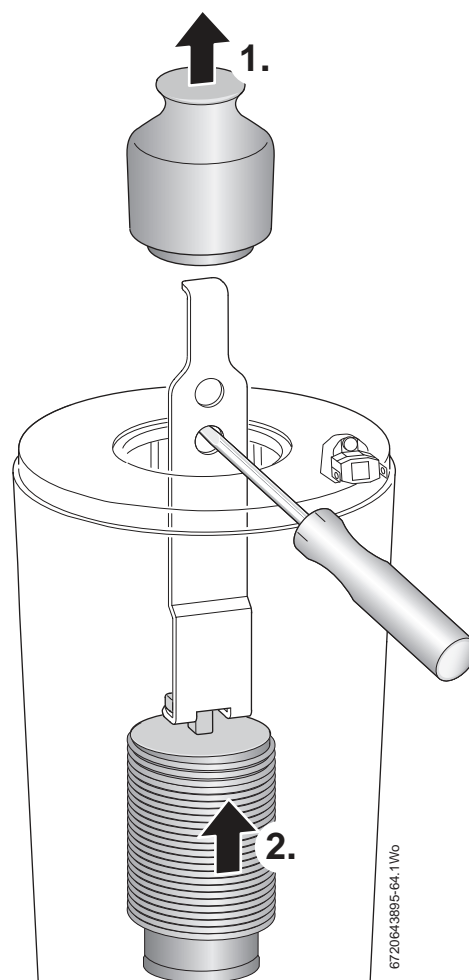

Fig. 81 Baffle removal
Refer to figure 81.
If the lower baffle is stuck, it may be necessary to use the "Baffle removal tool" from the heat exchanger cleaning kit - 7 716 192 312, as shown in figure 81.
The baffles (1) and (2) must be refitted into the heat exchanger in the order shown in figure 81. Failure to do so may result in damage to the boiler.